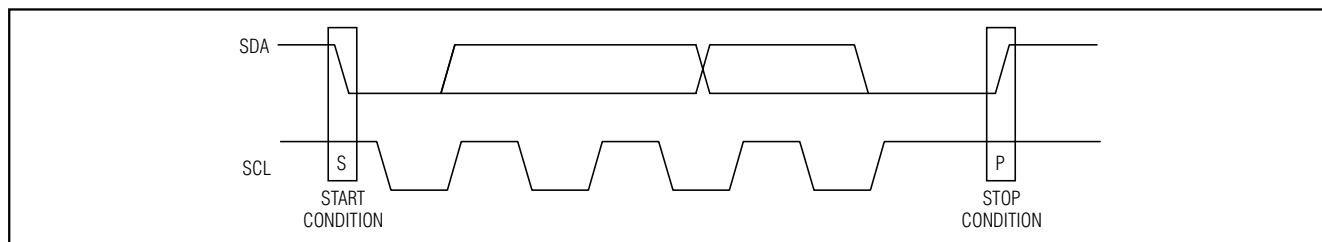

Figure 3. START and STOP Conditions
Each transmission consists of a START condition sent by a master, followed by the MAX7312 7-bit slave address plus R/W bit, a register address byte, 1 or more data bytes, and finally a STOP condition (Figure 3).
Both SCL and SDA remain high when the interface is not busy. A master signals the beginning of a transmission with a START (S) condition by transitioning SDA from high to low while SCL is high. When the master has finished communicating with the slave, it issues a STOP (P) condition by transitioning SDA from low to high while SCL is high. The bus is then free for another transmission (Figure 3).